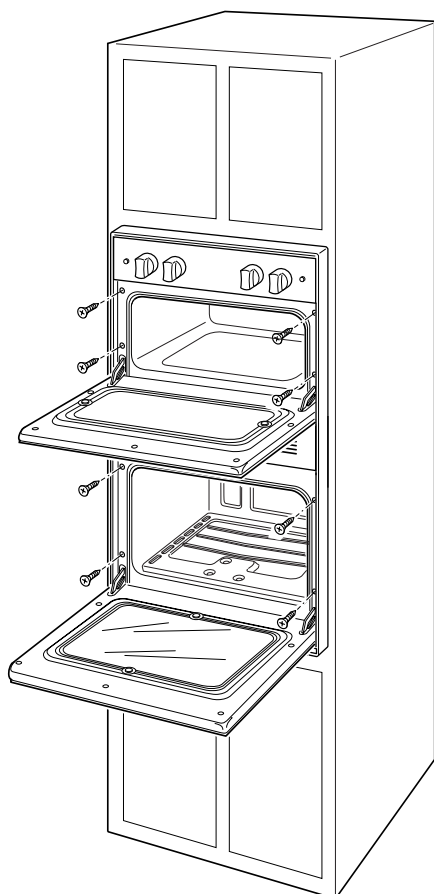

Fig. 6.2
For **SAFETY CONSIDERATIONS** the oven **SHALL BE FASTENED** to the cabinet with eight (8) **SUITABLE** screws (not supplied with the unit) through the holes in the trim (see fig. 6.2). The unit should be leveled properly before being secured to the cabinet.